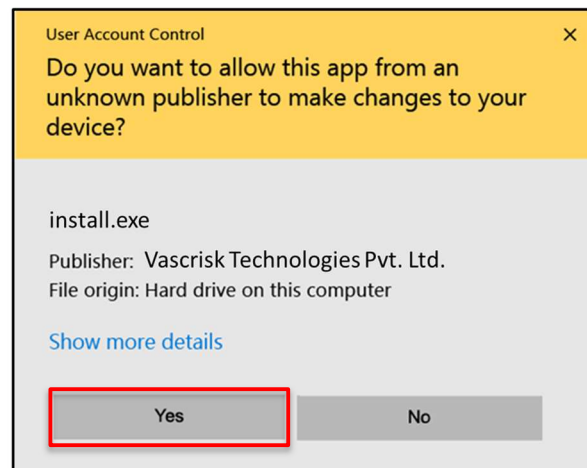

Fig.9. ARTSENS Plus Software installation
- Pop-up appears as shown in fig.9. Click Yes.